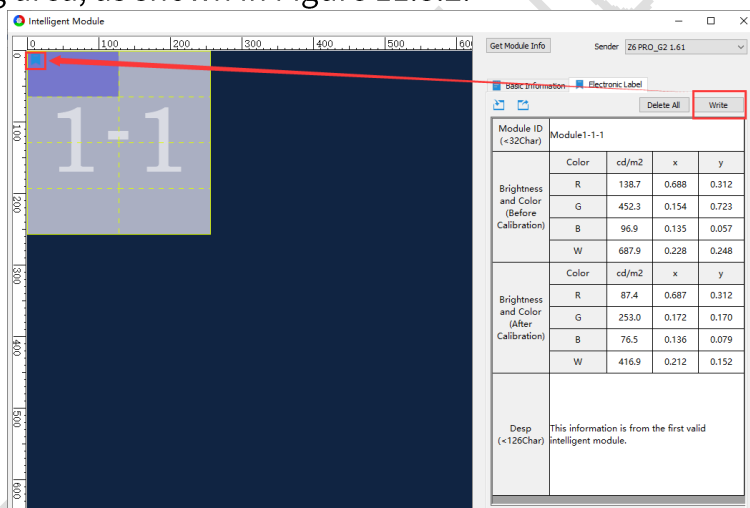

Fig 11.3.2 Write electronic labels
Step 2: Click **Write** to write the electronic label to the selected module. Once the label is written, the icon  will display at the top left of the module in the drawing area, as shown in Figure 11.3.2.